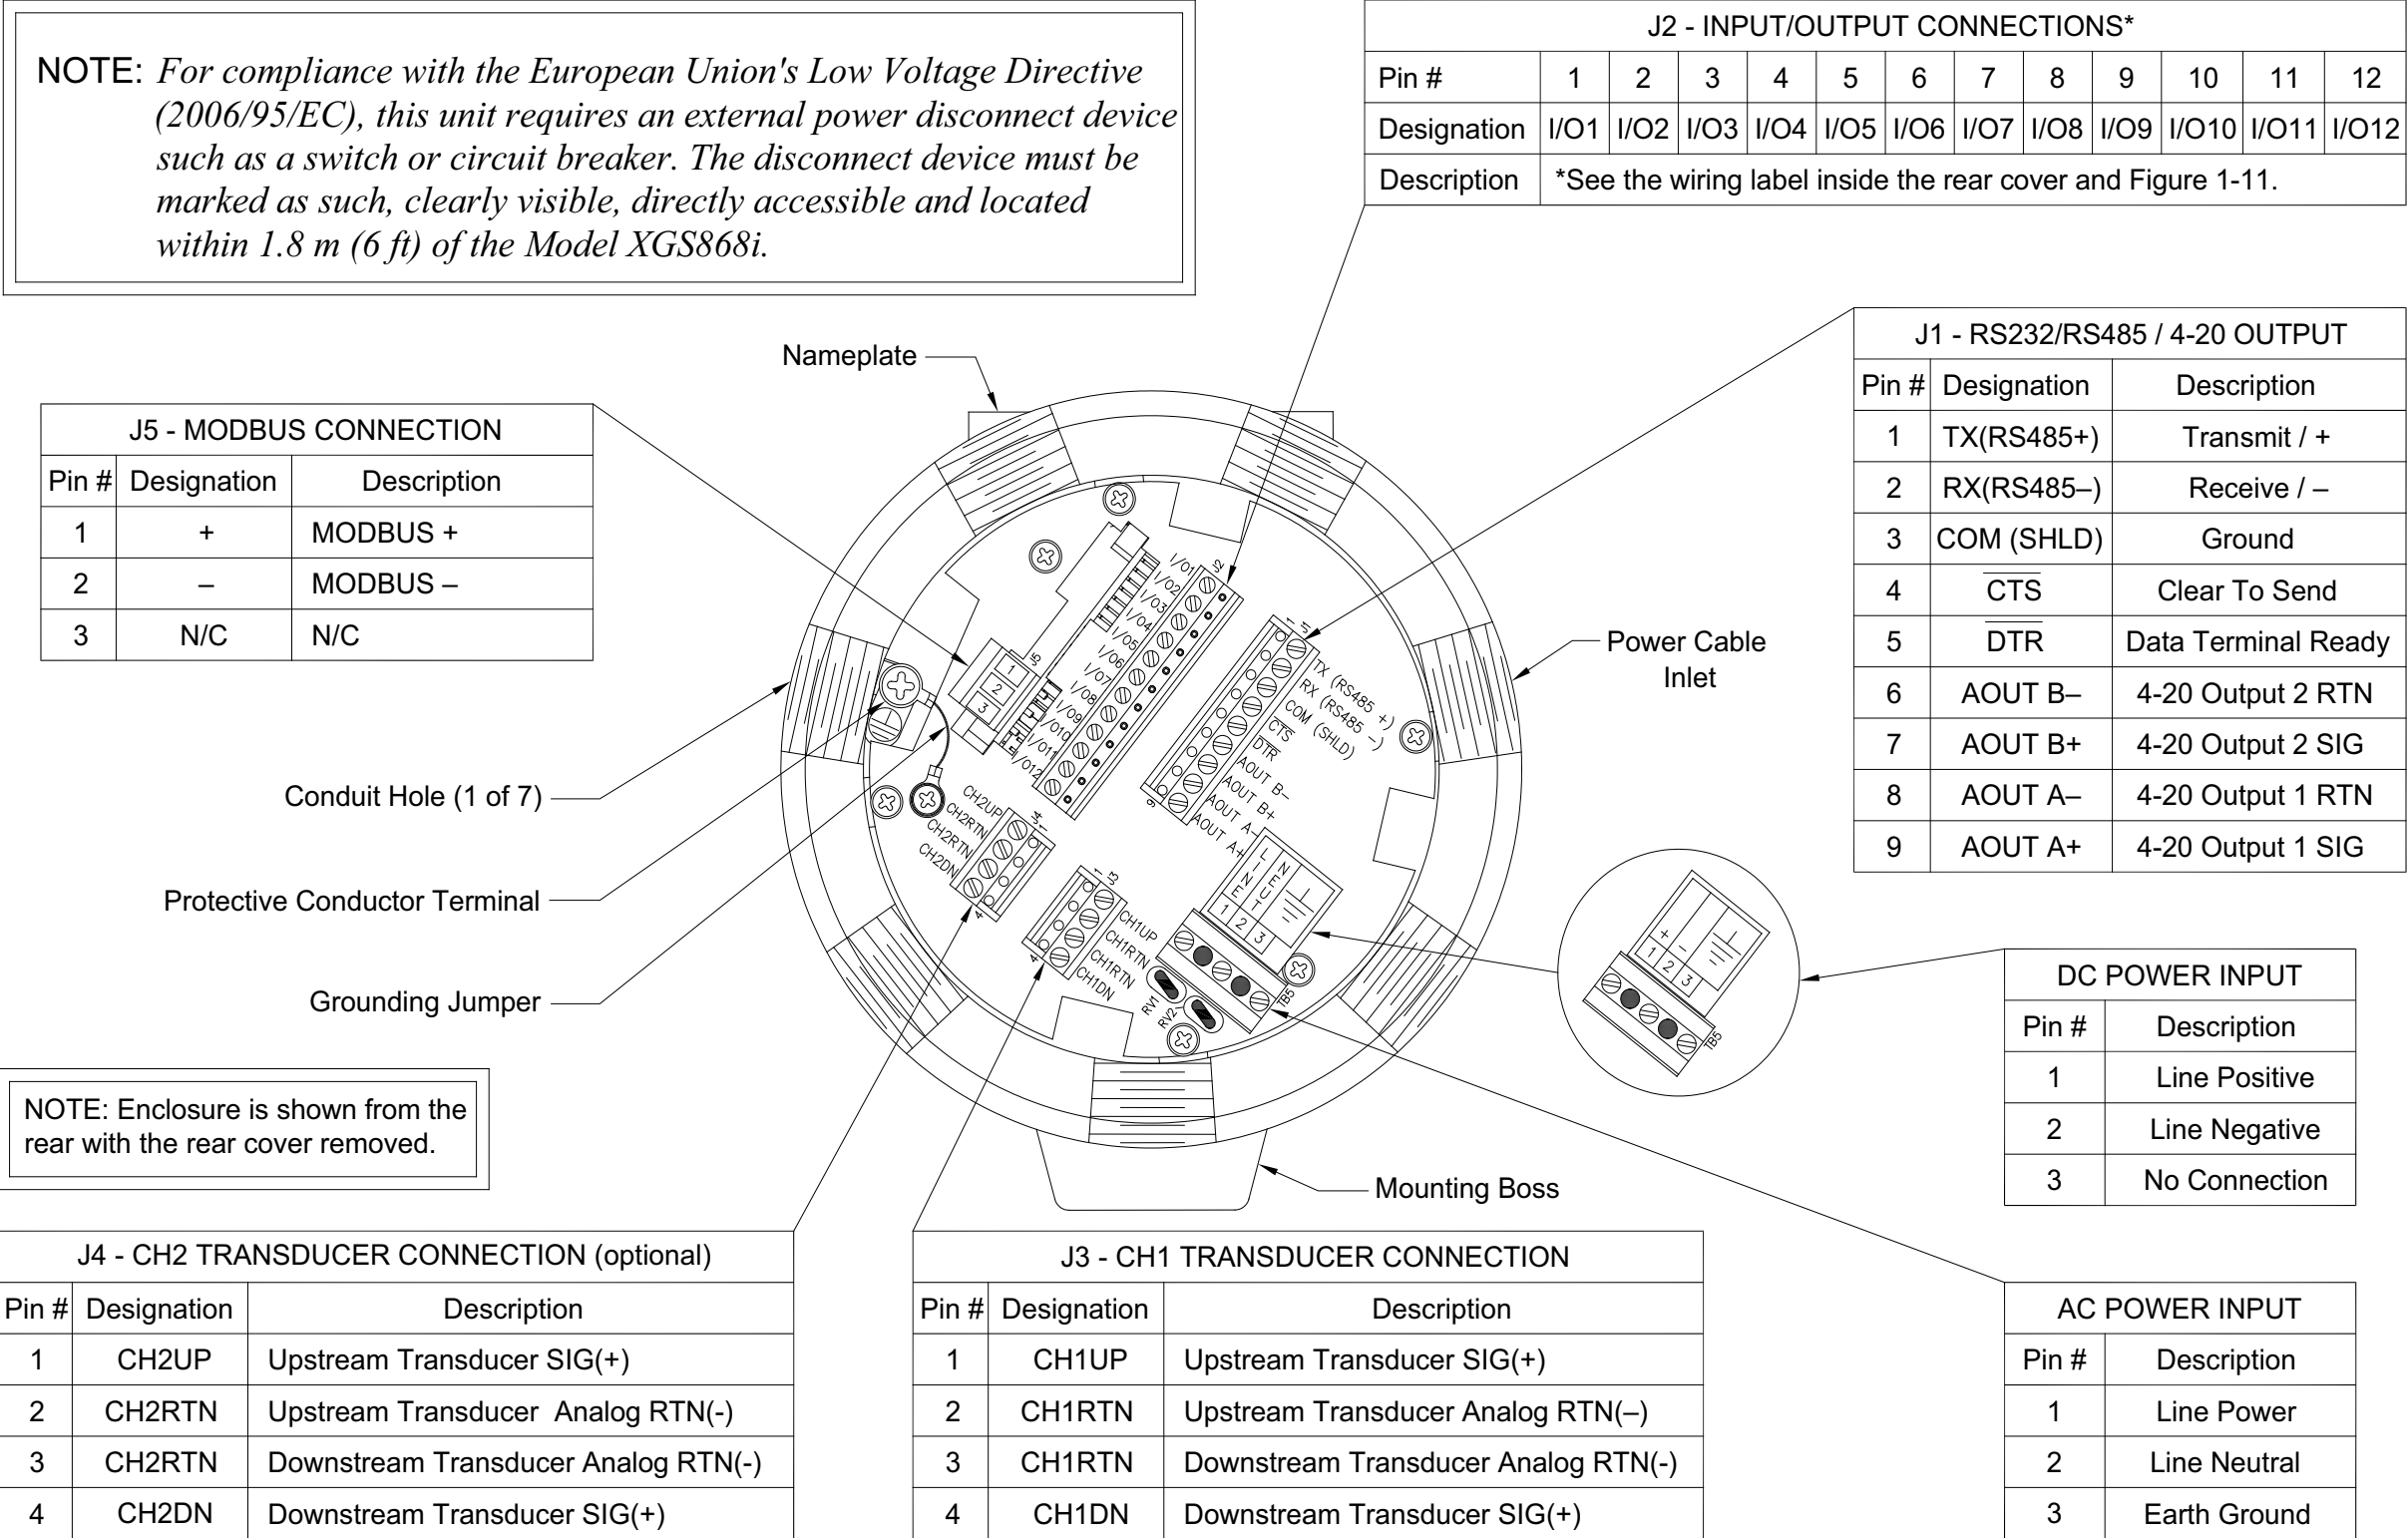

Figure 10: Model XGS868i Wiring Diagram (ref. dwg #702-646)
3. Locate the 12-pin terminal block (J2) in Figure 10 on page 23 and wire the option card as indicated on the label inside the rear cover (see Figure 3 on page 6 and Figure 11 on page 24). Secure the cable clamp.